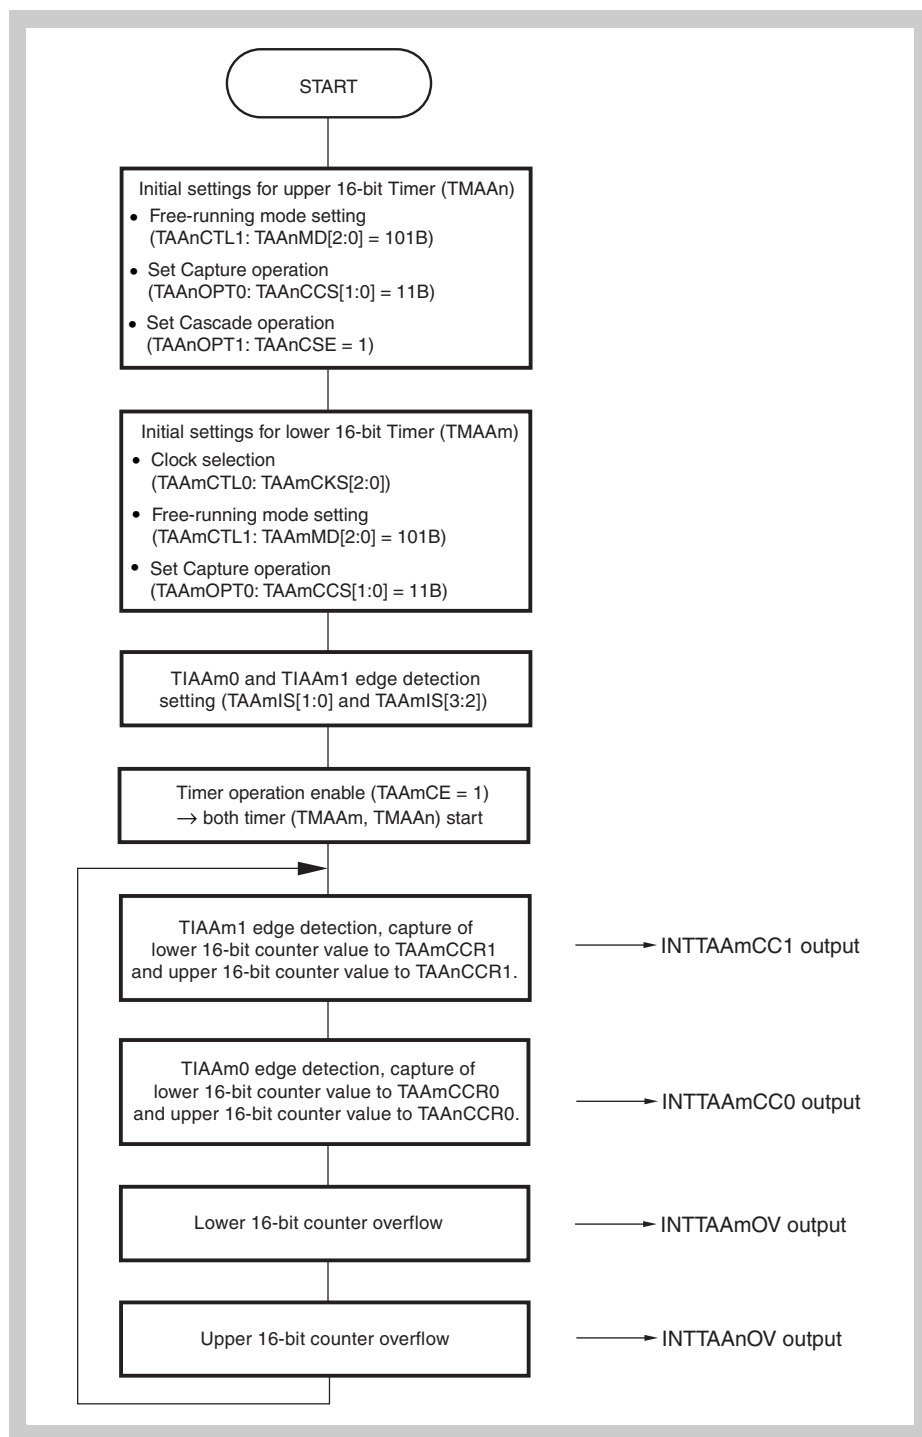

Figure 11-37 Basic Flow of 32-bit Capture Mode
*Figure 11-37* shows the recommended flow for setting up TAAm and TAAn in cascade mode. As TAAm is used for general control, TAAn is set up first and set in cascaded operation by setting the TAAnCSE bit to 1. Then TAAm is initialized by selecting the proper clock setting and capture trigger input. Only TIAAm0 and TIAAm1 can be used as external capture trigger.